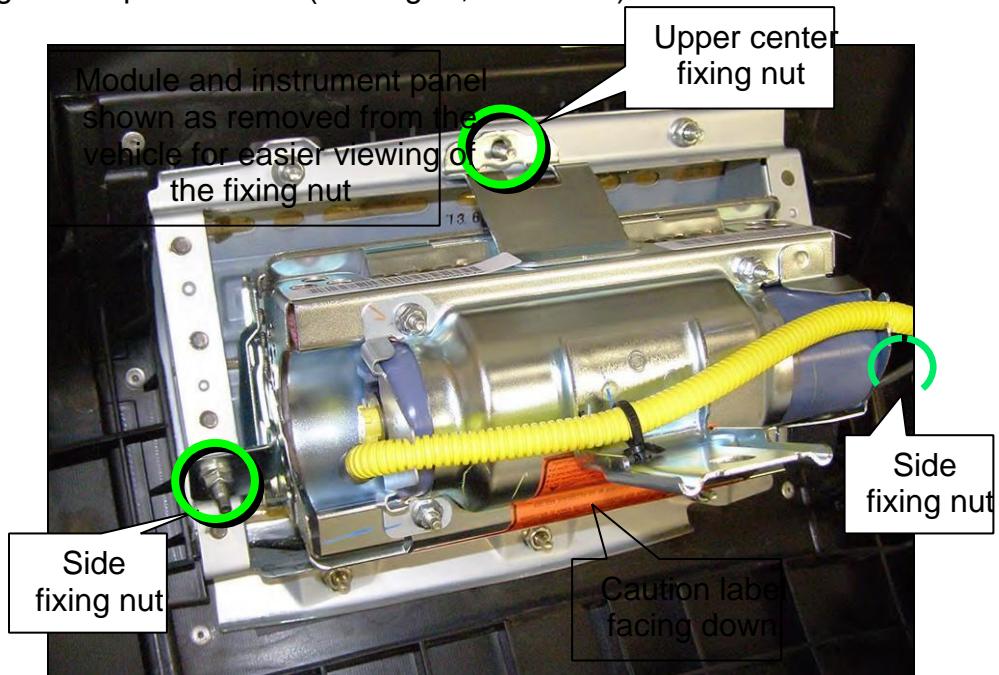

Figure 15
10. Install the new front passenger air bag module (Figure 15, Figure 16, and Figure 17).
- a. Using the three (3) new fixing nuts supplied with the replacement air bag module, secure the front